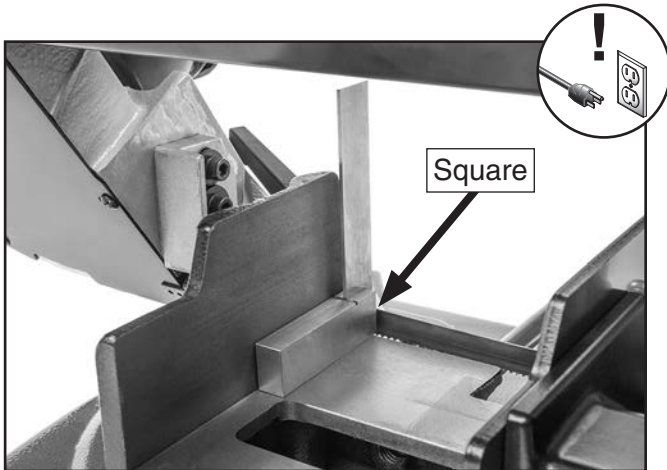

Figure 33. Checking blade-to-table squareness.
3. Place square on vise base surface and against edge of blade (see **Figure 33**), and check different points along length of base surface between blade guide assemblies.